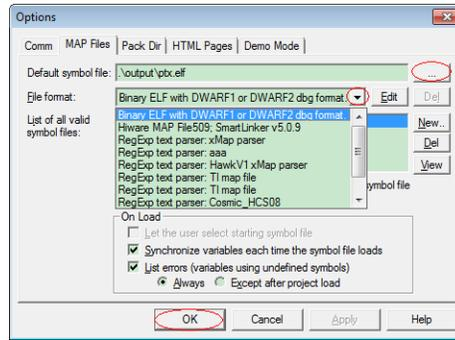

Figure 5. FreeMASTER settings – "Options: MAP Files"
- j. Click “OK” button to complete FreeMASTER options configuration (shown in Figure 5).